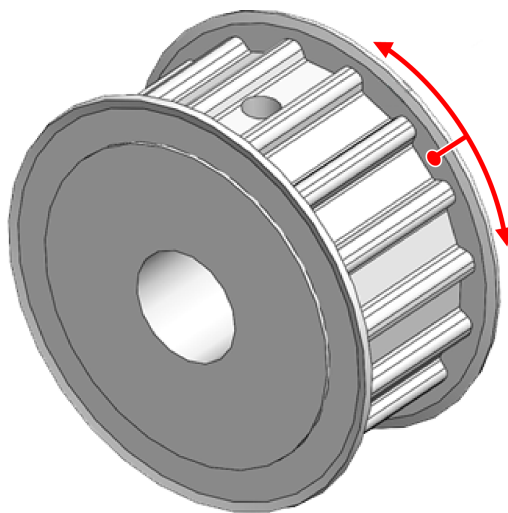

Figure 4-6: Lubricate the Pulley Flanges
12. Add small amounts of Parker Super O-Lube lubricant around the circumference of both pulley flanges (Figure 4-6).